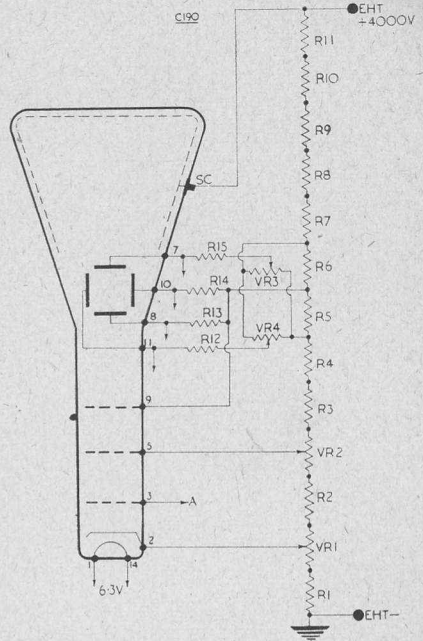

Fig. 2
at this point, with respect to the negative line. It can therefore be seen that these two potentials are arranged to be approximately equal, but of opposite polarity to each other, therefore they cancel out giving the effect of the cathode ray tube grid, reaching zero volts, with respect to its cathode. The vertical and horizontal deflector plates are brought out to pins 10 and 11, and 7 and 8 respectively, and the connections for correct operation are as follows: Pins 7 (CRT) via high voltage coupling capacitor to pin 5 on LINE AMPLIFIER (6SN7) valve-holder. Pin 8 (CRT) via H.V. capacitor to pin 2 LINE AMPLIFIER valve-holder. Pin 10 (CRT) via HV capacitor to pin 5 FRAME AMPLIFIER. Pin 11 (CRT) via H.V. capacitor to pin 2. FRAME AMPLIFIER. Just one word with reference to these amplifiers; the input from their respective time bases is on pin 4 (grid) in each case. R12-R15 are decoupling resistors of 1 MΩ each, half watt size being ample. R1-R7 are also half watt. In the case of R8-R11 the one watt variety are preferred due to the extra length between ends, thus reducing the possibility of "flash over." One the side of the CRT envelope, a connection will be seen and is referred to in Fig. 2 as "SC." This is the INTENSIFIER connection, and it goes to the final EHT voltage (4,000). The correct method of mounting is such that this connection (SC) is directly above, and may be viewed from the top.